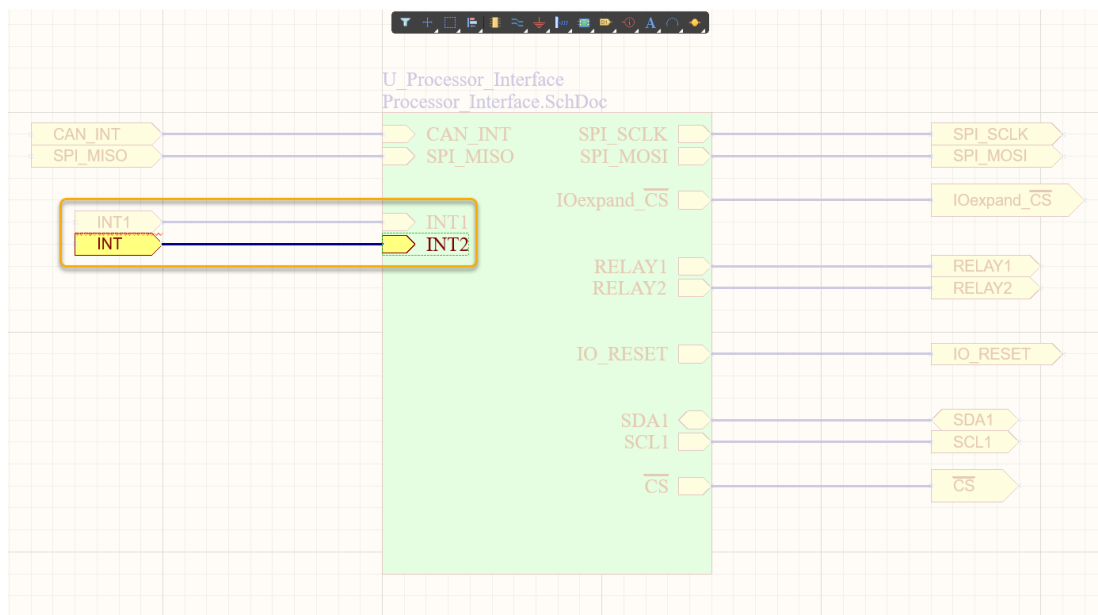

Figure 10. Port INT not matched to Sheet Entry / Sheet-Entry INT2 not matched to Port
33. In the messages panel double-click on the message Sheet-Entry INT2 not matched Port, to jump to the schematic with the violation, as highlighted in Figure 10.